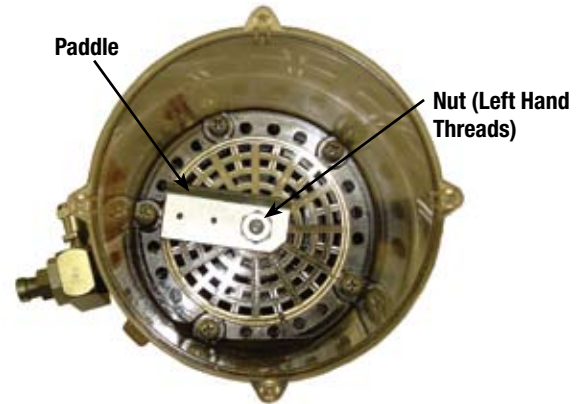

Figure 3-3
3.3 REPLACING RESERVOIR (SEE FIG 3.3 & 3.4)